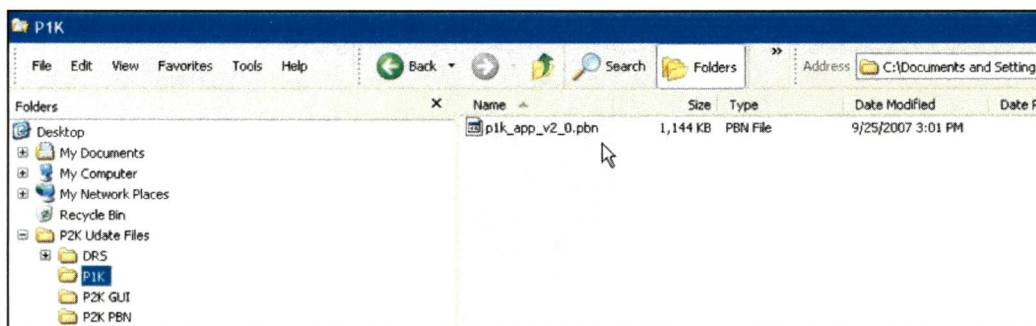

Figure 21. P1K Folder Contents
- ☐ 1. Verify the P1K folder you created in Paragraph 4 contains the file shown in Figure 21.